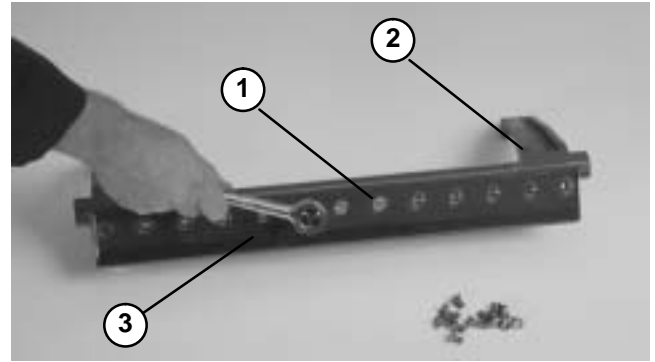

Figure 13
2. Remove screws from bedbar using a socket wrench and bedknife screw tool (see Special Tools). Discard screws. Remove bedknife from the bedbar (Fig. 13).